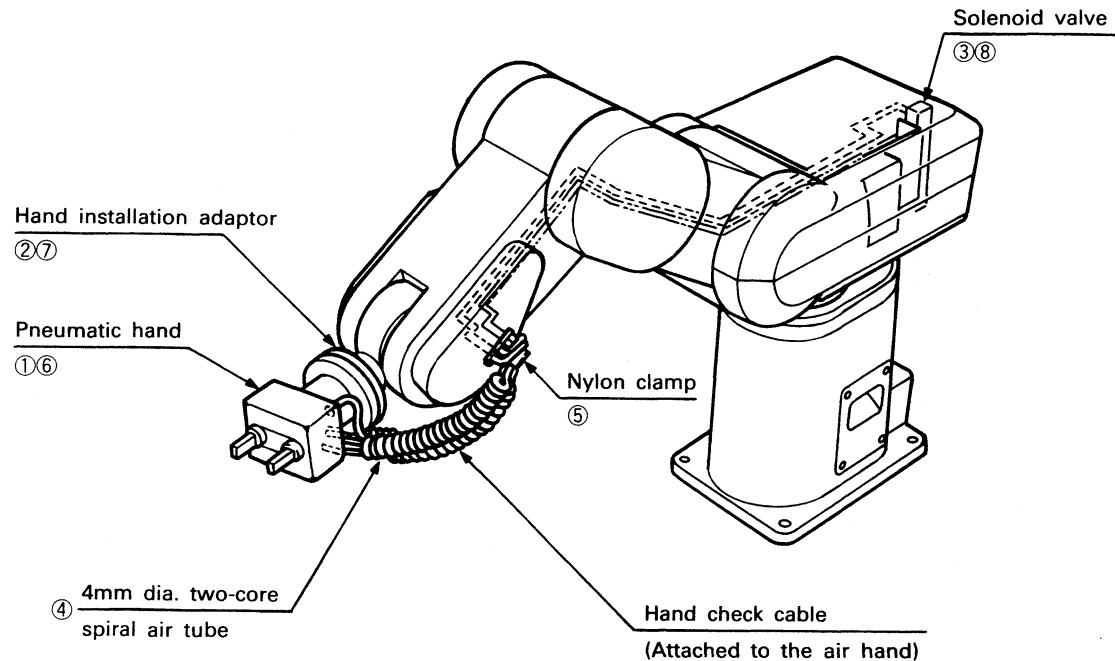

Fig. 2.1.11 Air Hand Set Structure
**1.7 Installation of the Pneumatic Hand Set (Option)** The structure of the pneumatic hand set is shown in Fig. 2.1.11 and its components are indicated in Table 2.1.2.